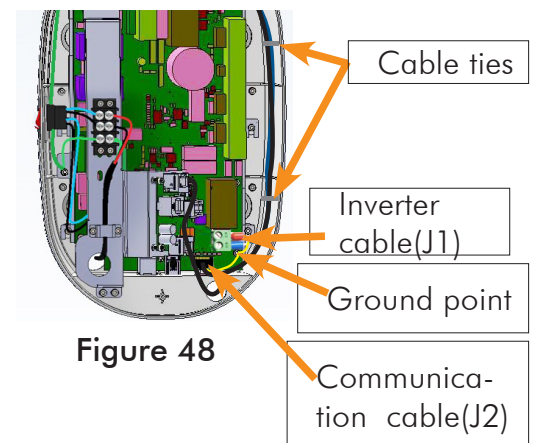

Figure 48
- Cut the 2 cable ties used to hold the cables on the right inner side of the Base Unit using cutter as shown in Figure 48 .
- Disconnect the communication cable connector (Pressing the lock) from J2 connector of the power board as shown in the Figure 48 .
- Disconnect the INV power cable (2 wires with pin terminals) from the J1 connector (holding the connector) of the power board using Jewel screw driver as shown in Figure 48 .
- Disconnect the GND ring terminals of both INV cable and communication cable by removing the M3X6 Hex. Socket head cap screw using 2.5 mm allen key from the power board at the location shown in the Figure 48 .